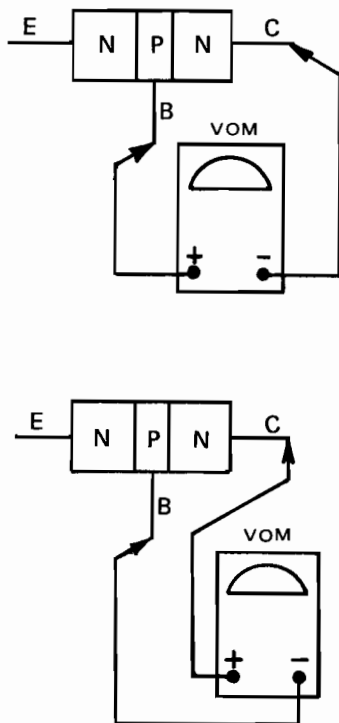

Fig. 13-3-4
6. Connect ohmmeter as indicated in part A and part B in Fig. 13-3-4.